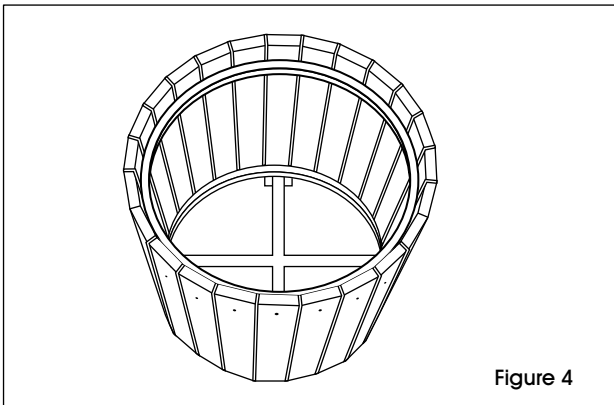

Figure 4
7. Using the same directions listed in steps 2, 3 and 4, line up the top ring with the resinwood slats and repeat the process until all resinwood slats have been attached to the top ring. You may now tighten all bolts, remembering to ensure can is put together evenly. (See Figure 4)